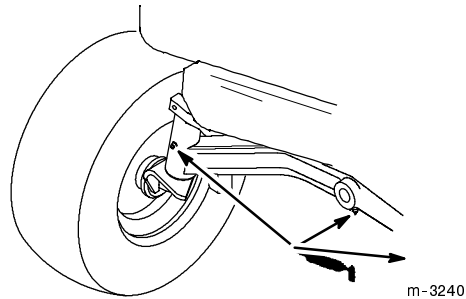

Figure 36
1. Lubricate the left-hand and right-hand spindles until grease begins to ooze out of the bearings (Fig. 36).
2. Lubricate the front axle pivot (Fig. 36).